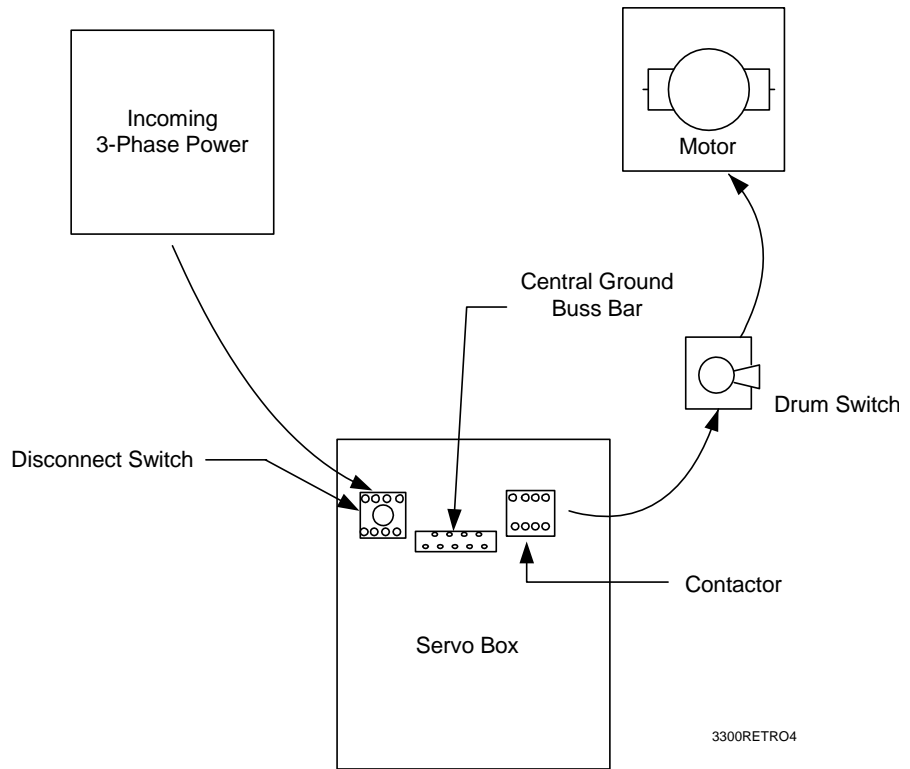
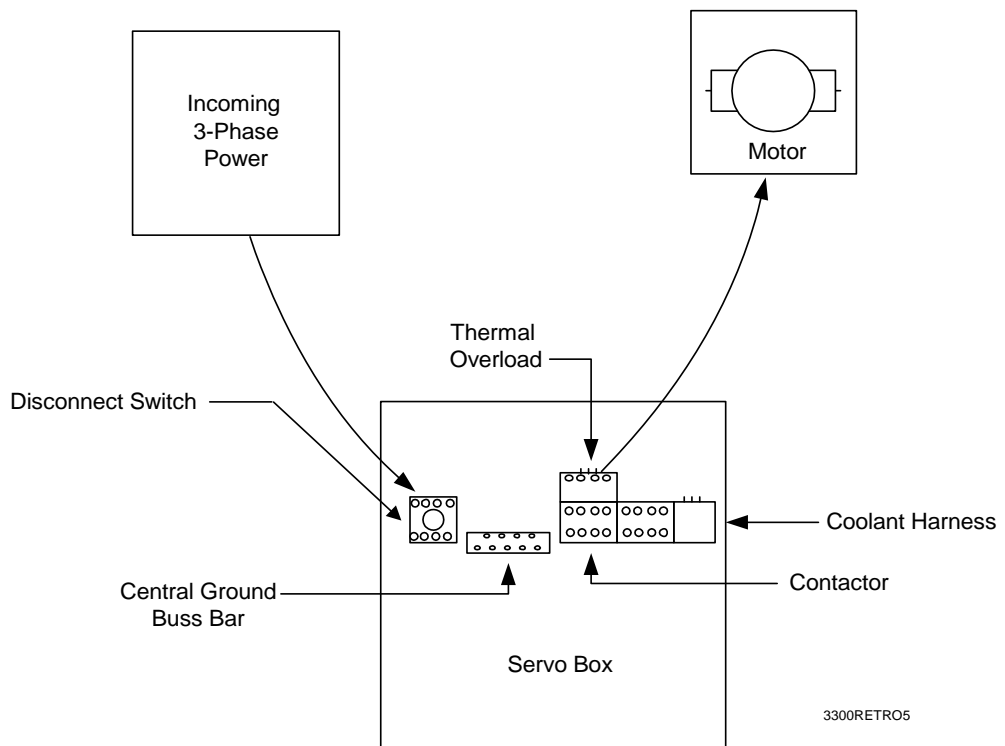

Figure 3-30, Spindle Motor Configuration Without M-Function
Figure 3-31, Spindle Motor Configuration With M-Function
- Wire the incoming three-phase power to the top side of the disconnect switch as shown in **Figure 3-30, Spindle Motor Configuration Without M-Function**, and **Figure 3-31, Spindle Motor Configuration With M-Function**.
Refer to **Figure 3-30, Spindle Motor Configuration Without M-Function**, and **Figure 3-31, Spindle Motor Configuration With M-Function**. Route incoming 3-phase power wires to the disconnect switch and tighten them securely. The ground conductor of the three-phase cable should be terminated with a ring lug and attached to the Servo Enclosure Central Ground Buss Bar.